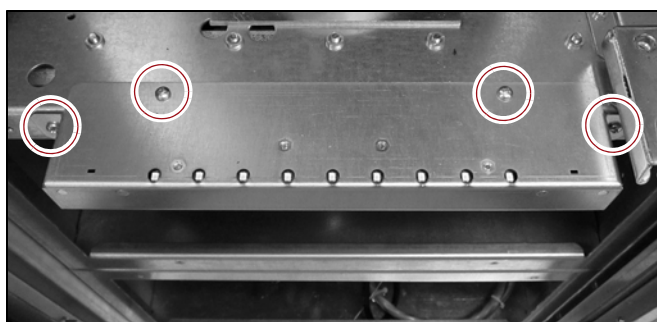

Figure 23 Remove the lower LED screws.
- If you are removing the lower LED assembly, the screws are located on the sides and top of the assembly (see Figure 23).